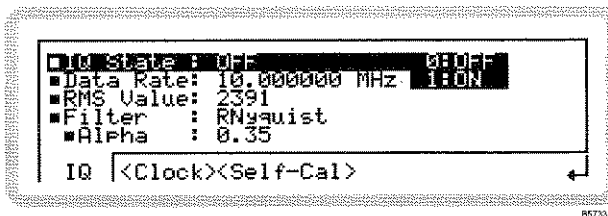

Fig. 3-66 External IQ, digital
- 2 Press **SIG GEN** to show the main screen, and touch the **IQ** soft box to select the function. Touch **IQ** and press **↙** to view the external digital IQ modulation menu (Fig. 3-66).